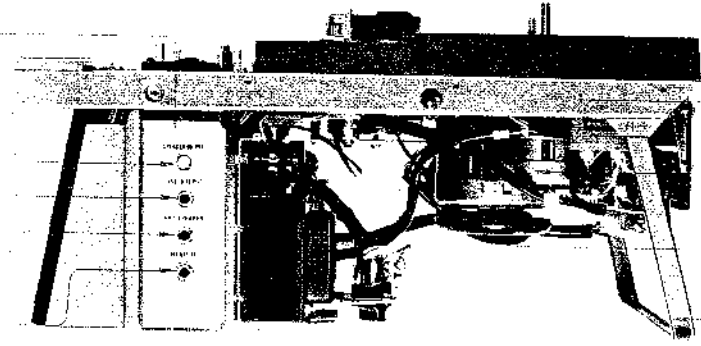

Fig. 4
(Fig. 4)
2. Erasing Current Adjustment (Refer to Fig.4)